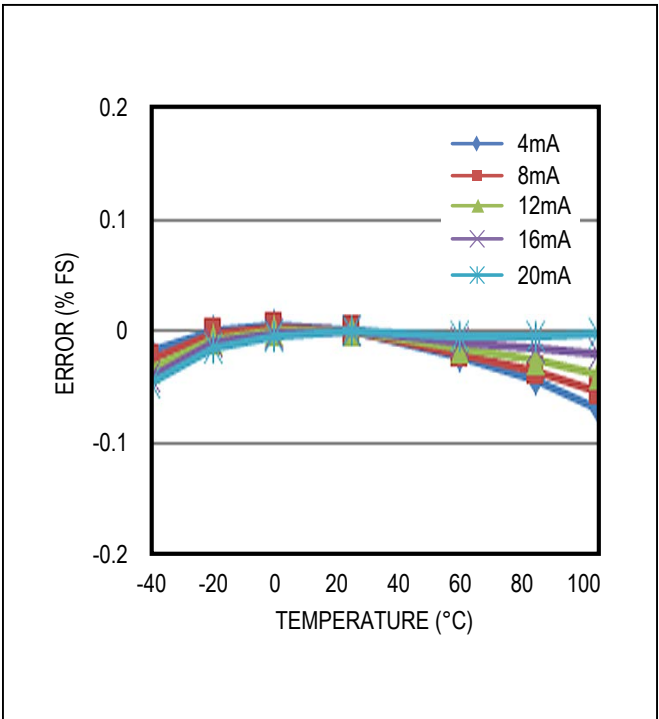

Figure 10. Transmitter Error Change vs. Temperature with 36V Loop Supply
- Remove the J3–J5 shunts (see Figure 10 for component placement).